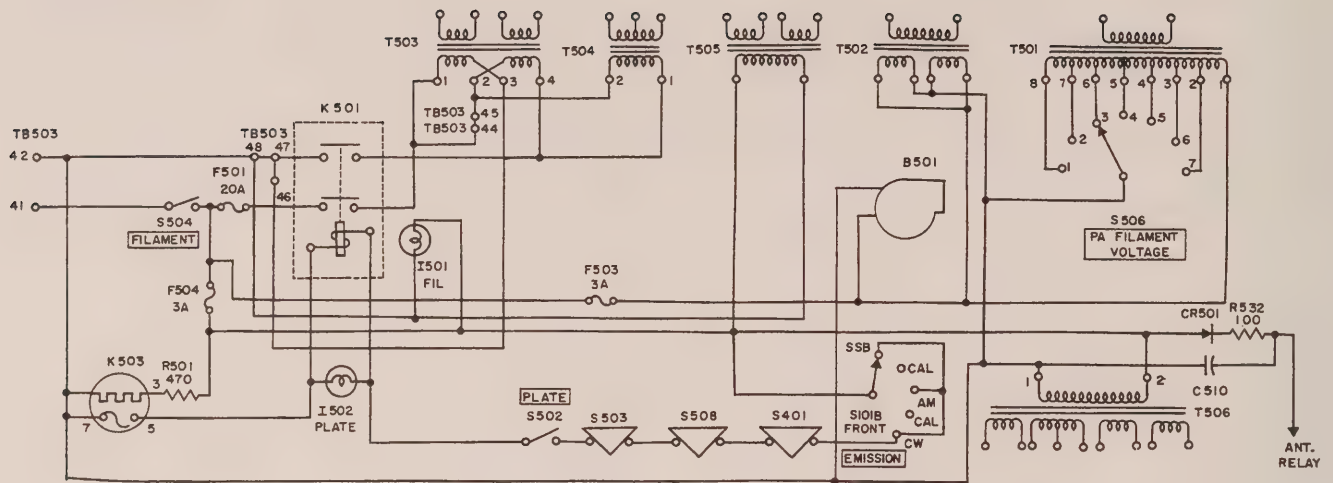
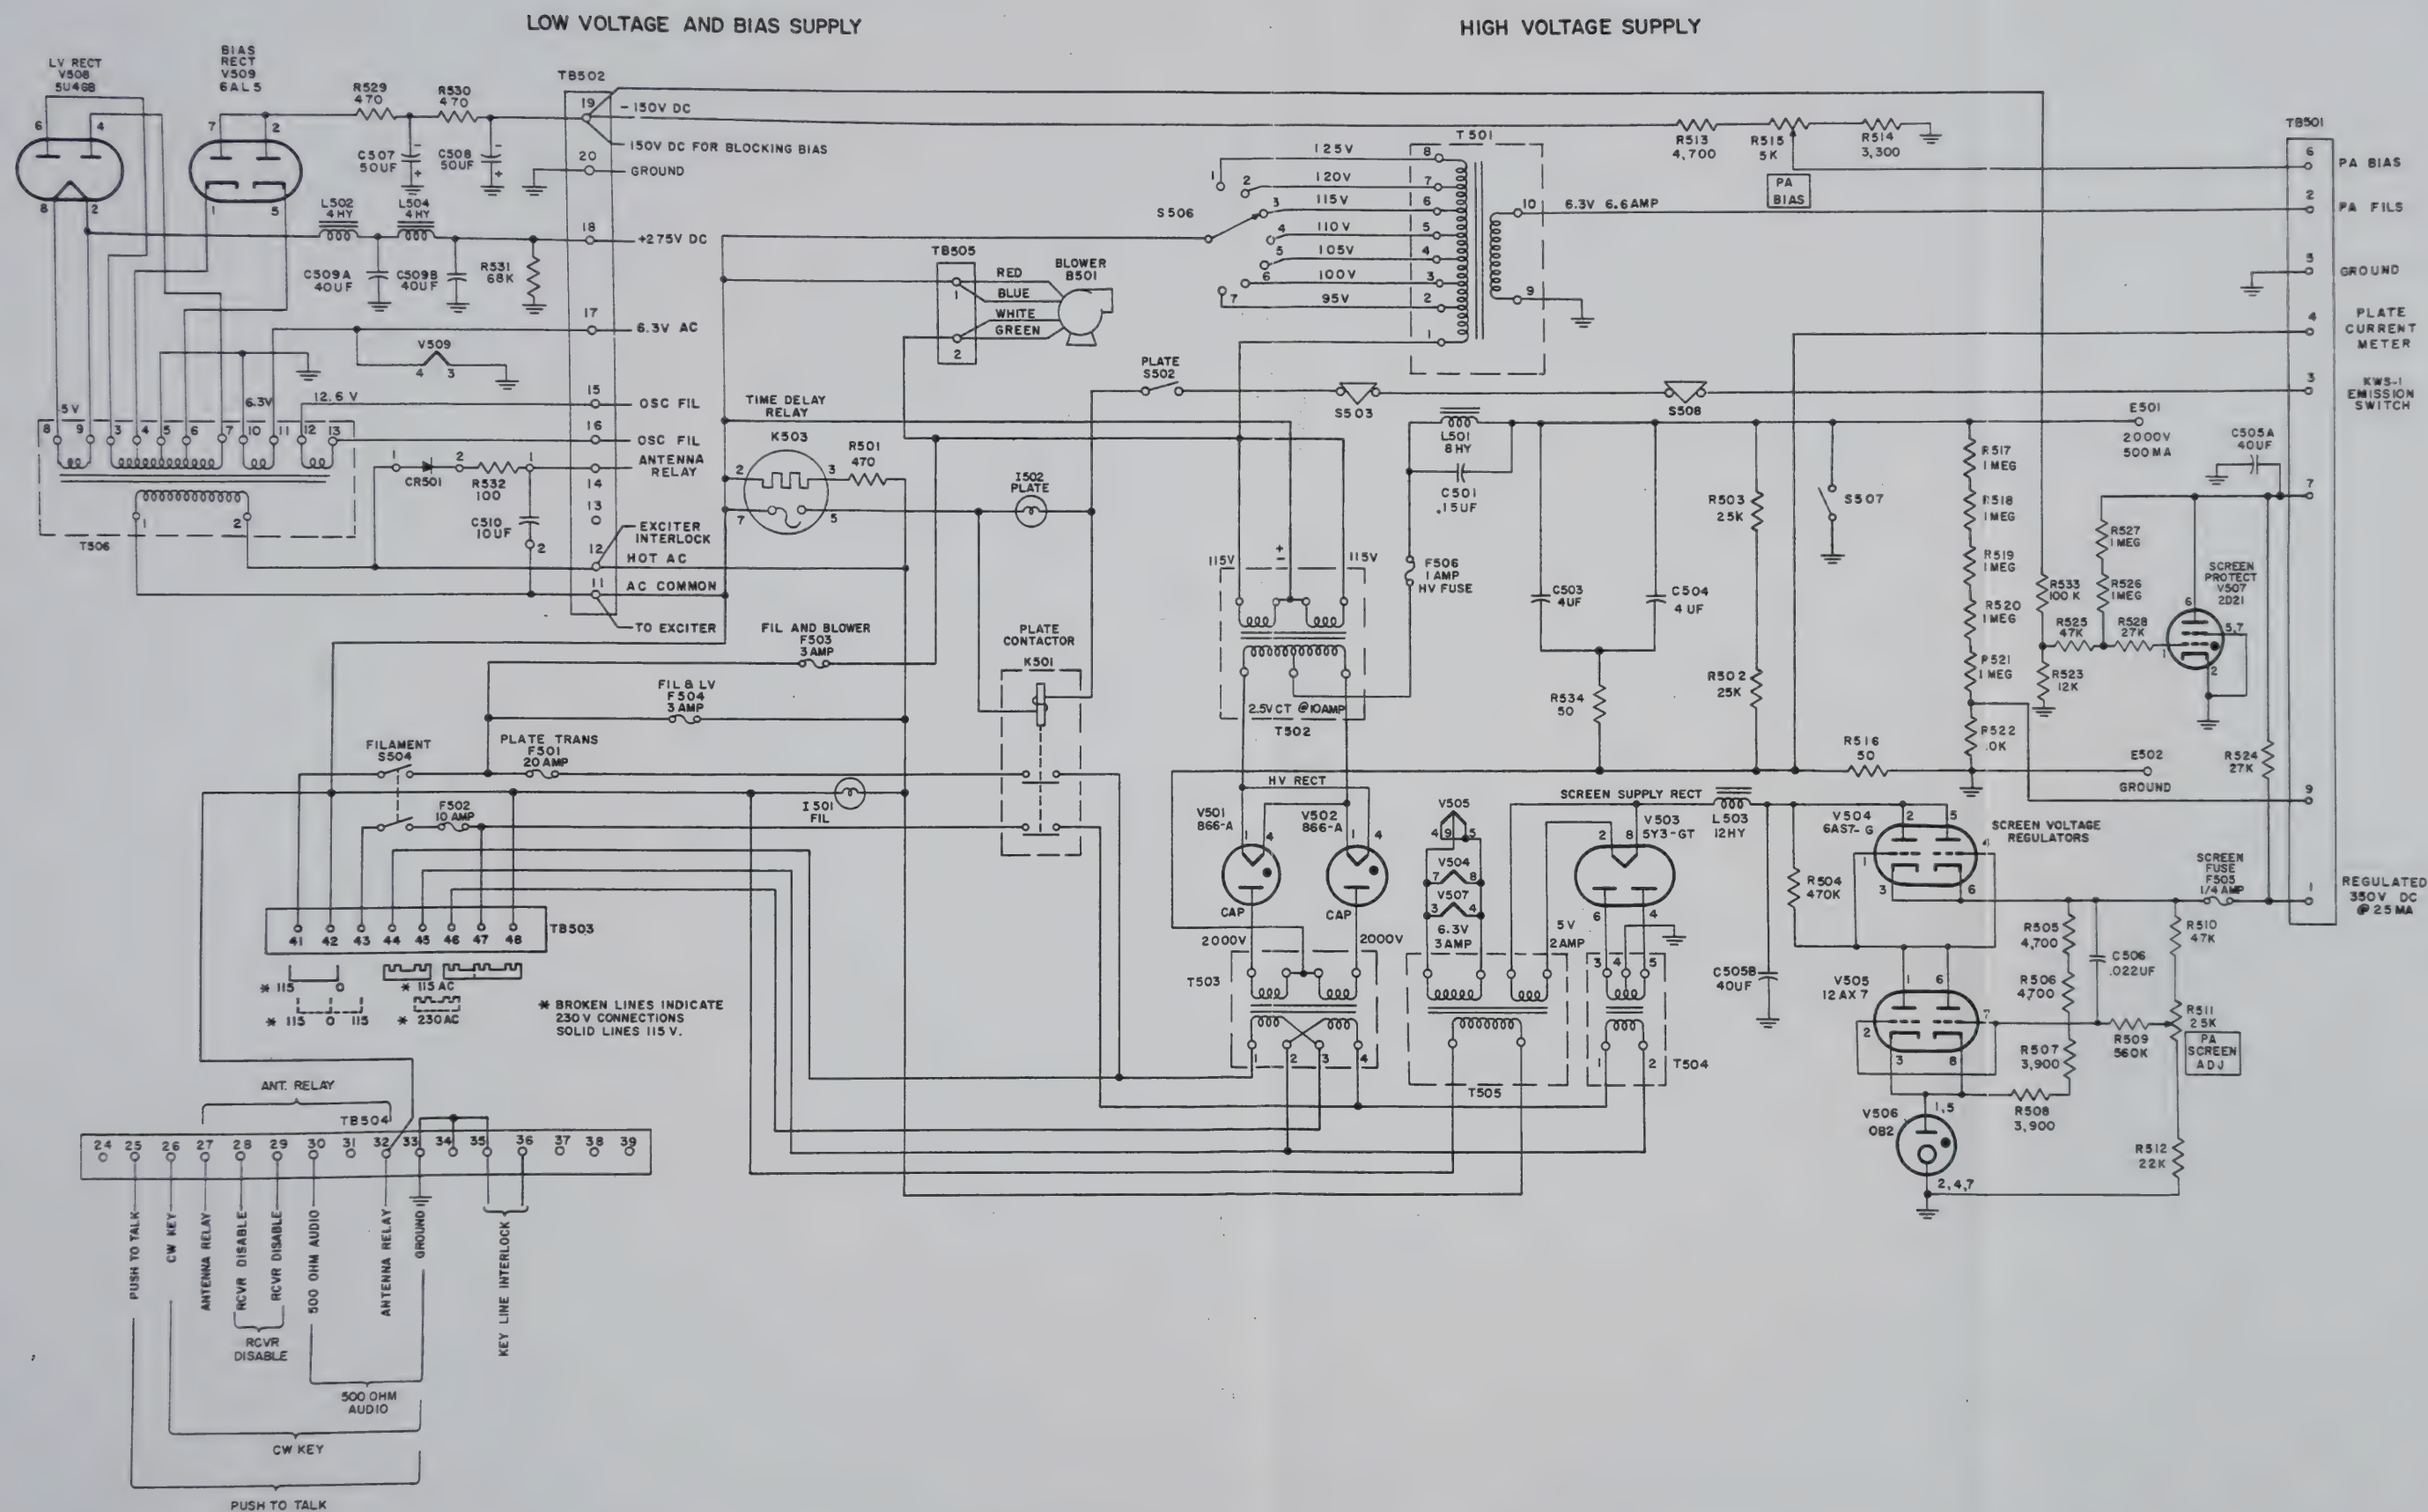

Figure 4-18. Primary Circuits, Simplified Schematic Diagram
Figure 7-2. Power Supply, Complete Schematic Diagram
4.2.2.1. GENERAL. The Power Supply of the KWS-1 Transmitter is designed for either a 230-volt or 115-volt a-c input. The schematic diagram in figure 7-2 shows alternate connections for either input value, whichever is available at the installation. Power supply primary circuits are shown in the simplified schematic diagram of figure 4-18.
V507, a 2D21 thyratron, is used in a screen protect circuit. (See figure 7-2.) Should the bias supply fail, the grid of V507 would lose its bias and allow a large amount of plate current to flow through V507. This plate current is enough to blow screen fuse F505, through which it is drawn, and cut off the PA screen supply. Likewise should a short occur between the plate and screen of the 4X150A tubes, the thyratron would strike and blow the screen fuse. (The plate fuse F506 would likely blow too.)